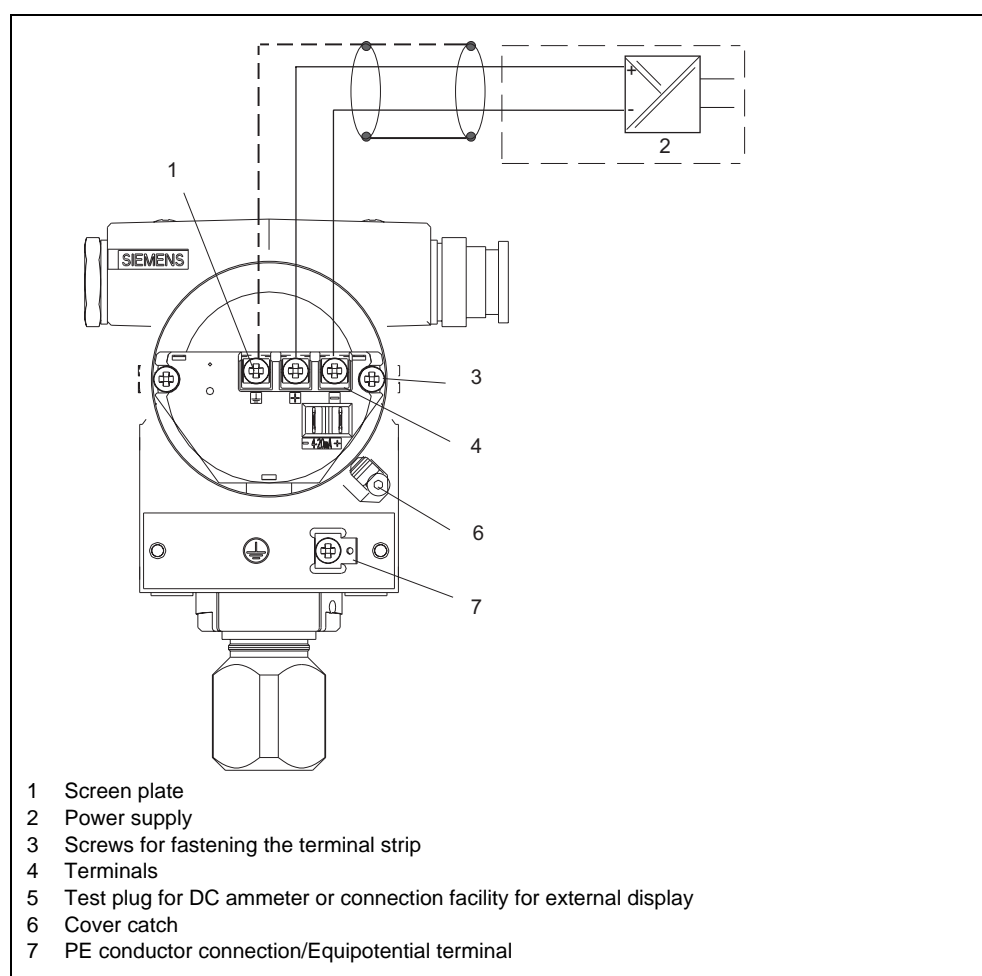

Figure 30 Electrical connection, schematic diagram
3. Connect the wires to the "+" and "-" terminals (Figure 30). Despite the markings, the polarity is not important.